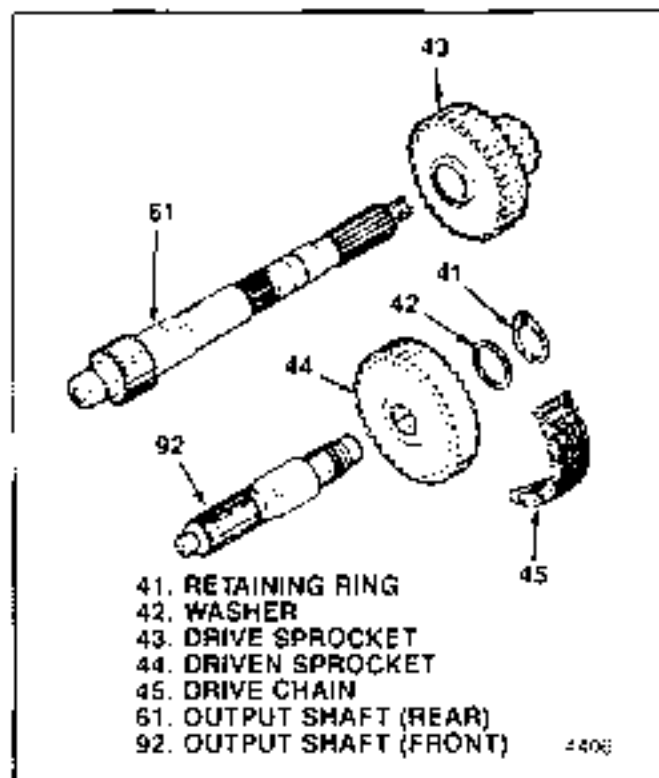

Figure 5-11. Chain Drive
**5-11. INSTALLATION OF CHAIN DRIVE.** To assembly as completed thus far (46 through 106) assemble parts as follows (see figure 5-11):
a. On work bench, next to transfer case assembly, position driven sprocket (44) with internal spline at front output shaft (92) end of case and drive sprocket (43) with smooth bore at output shaft (61) end.
b. Assemble drive chain (45) around sprockets (43) and (44).
c. Grasp each sprocket (43 and 44), held drive chain (45) tight and parallel with transfer case, and install chain drive assembly (43 through 45) over output shafts (92 and 61). It may be necessary to rotate driven sprocket (44) slightly to engage splines on front output shaft (92).
d. Install washer (42) on front output shaft (61). Install retaining ring (41) in shaft groove over washer.